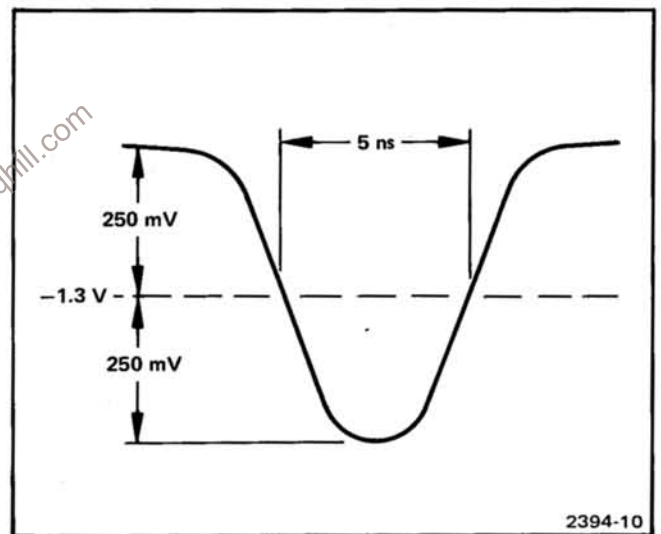

Fig. 3-5. 485 Oscilloscope Display.
l. Adjust PG 502 Pulse Generator Output (volts) Hi-Low Level for ±250 mV from a threshold voltage of -1.3 V as displayed on the 485 Oscilloscope. (See Fig. 3-5.)
m. Adjust PG 502 Pulse Generator Pulse Duration Variable control for a 5 ns pulse width at the -1.3 V (threshold voltage) level as displayed on 485 Oscilloscope. (See Fig. 3-5.)
Throughout the above procedure maintain the correct display (as shown in Fig. 3-5) on the 485 Oscilloscope.